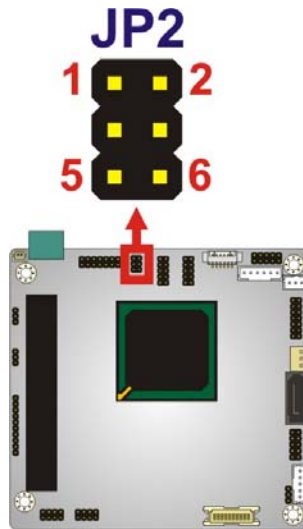

Figure 4-8: COM 2 Function Select Jumper Location
- Jumper Location:** See Figure 4-8